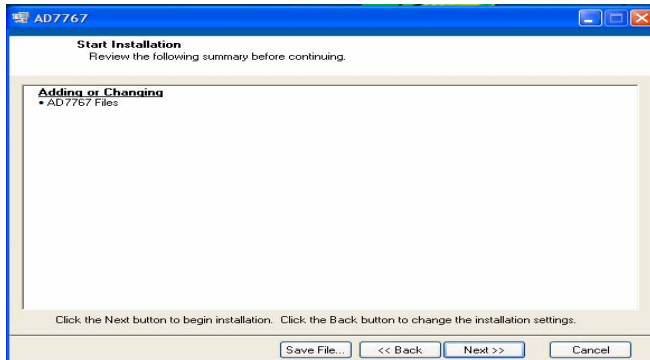

Figure 5. AD7766/-1/-2 Install actions
4) To start the installation, click the "Next" button as shown in Figure 5. This window details the actions of the installation.